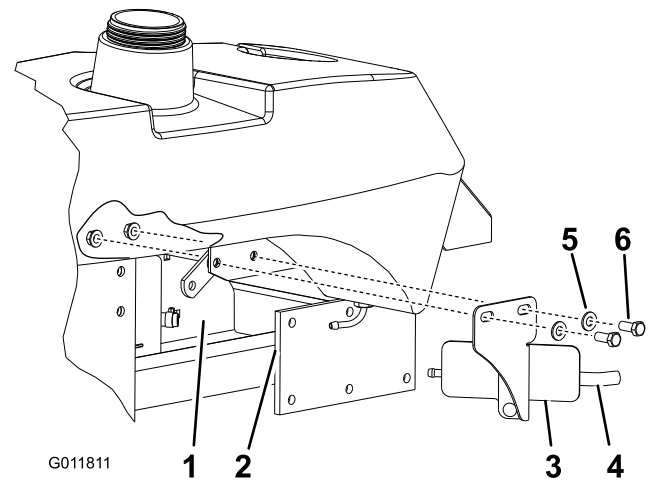

Figure 9
6. Install new fuel pump and bracket assembly using the nuts previously removed and new bolts (3/8 x 7/8 inch) and flat washers (3/8 inch) (Figure 9). Don't tighten the fasteners.